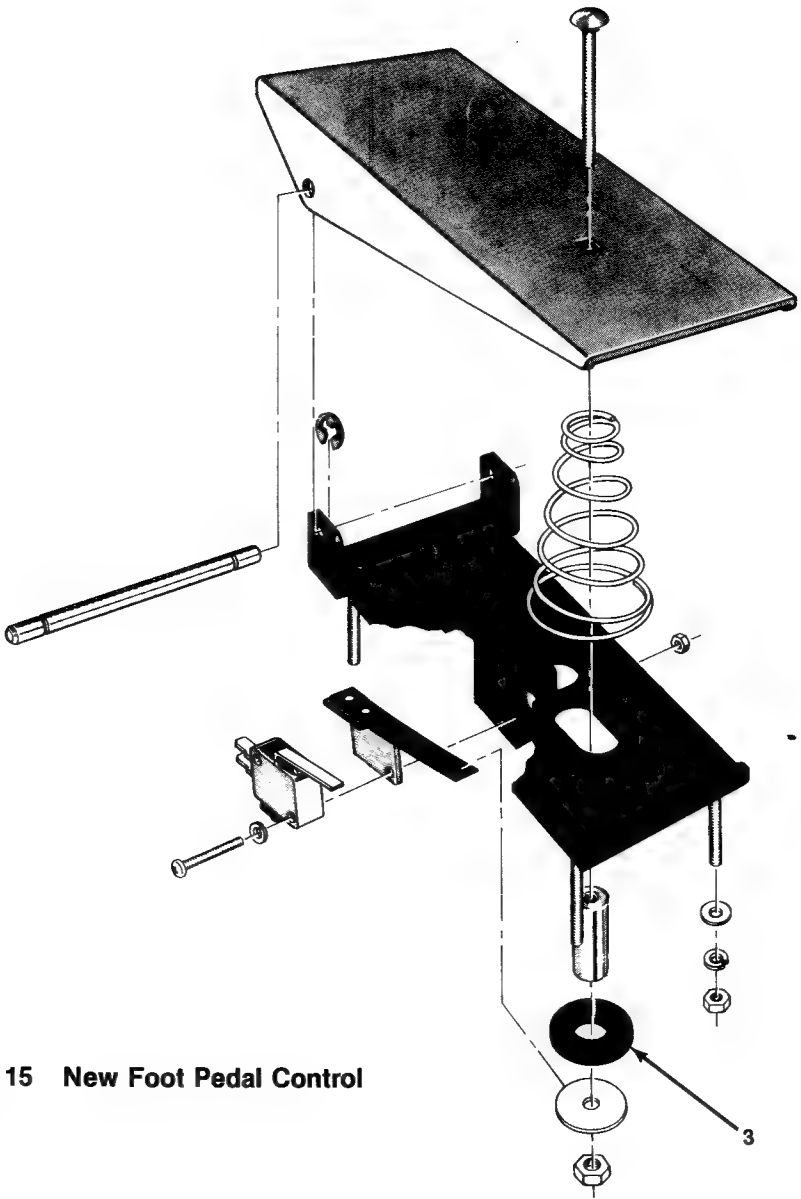

Figure 15 New Foot Pedal Control
Figure 15 shows the newest gas pedal assembly (introduced in early 1980). Notice that the microswitch activator has been changed to a spring, to prevent flexing sideways. This keeps the activator from slipping off the washer (3).
| Figure 15 | Schematic of Zenith Model D12 12-Inch Monochrome Monitor .....  | 3-24 |